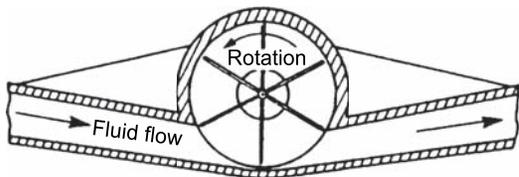

Figure 23.8
- (b) **Rotary vane positive displacement meters** measure the flow rate by indicating the quantity of liquid flowing through the meter in a given time. A typical such device is shown in section in Figure 23.8 and consists of a cylindrical chamber into which is placed a rotor containing a number of vanes (six in this case). Liquid entering the chamber turns the rotor and a known amount of liquid is trapped and carried round to the outlet. If  $x$  is the volume displaced by one blade then for each revolution of the rotor in Figure 23.8 the total volume displaced is  $6x$ . The rotor shaft may be coupled to a mechanical counter and electrical devices which may be calibrated to give flow volume. This type of meter in its various forms is used widely for the measurement of domestic and industrial water consumption, for the accurate measurement of petrol in petrol pumps and for the consumption and batch control measurements in the general process and food industries for measuring flows as varied as solvents, tar and molasses (i.e. thickish treacle).